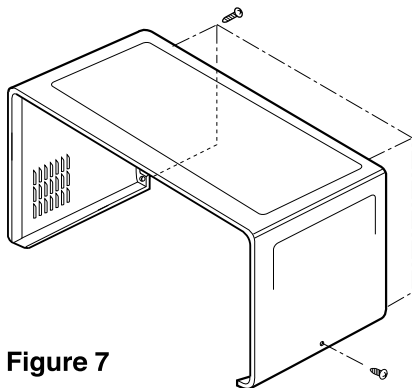

Figure 7
A. REMOVING OUTER CASE (Figures 7)
- (1) Remove four screws from the rear section.
- (2) Remove one screw from the side section.
- (3) Push the outer case back about 1 inch (3cm).
- (4) Lift the case from the set.